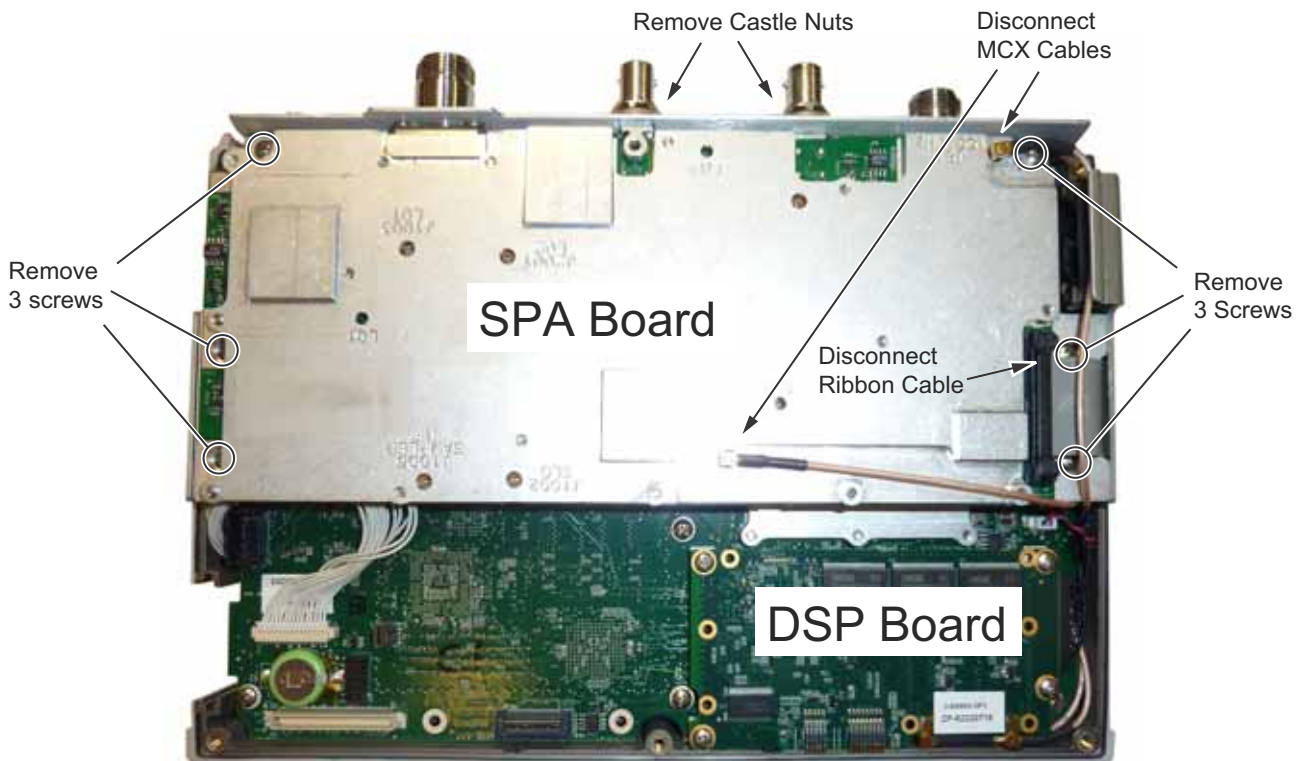

Figure 6-5. Removing the SPA Assemblies
3. Remove the castle nuts from the External Reference connector and the External Trigger connector (Figure 6-5).